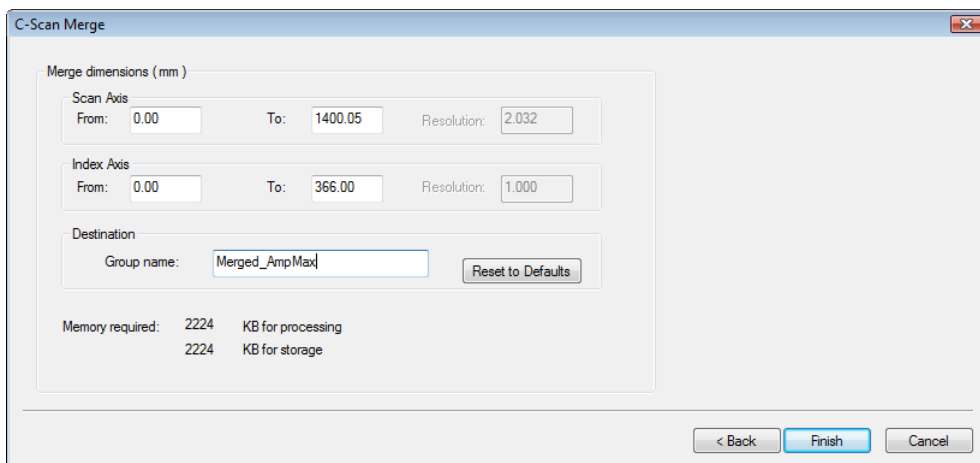

Figure 7-27 Example of the C-Scan Merge dialog box (second step)
4. In the second step of the **C-Scan Merge** dialog box (see Figure 7-27 on page 367), under **Merge Dimensions**:
The merged group is added to the contents (see Figure 7-27 on page 367).